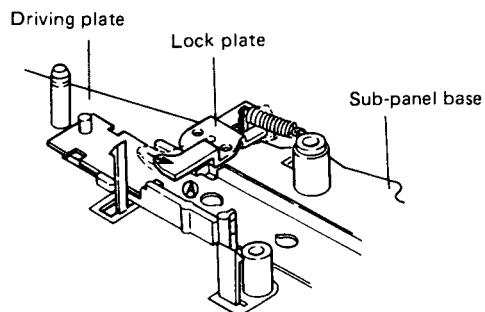

Fig. 13-9 Cam assembly attachment
The cam assembly is attached by letting the lock plate go in the direction ① as shown in Fig. 13-9.